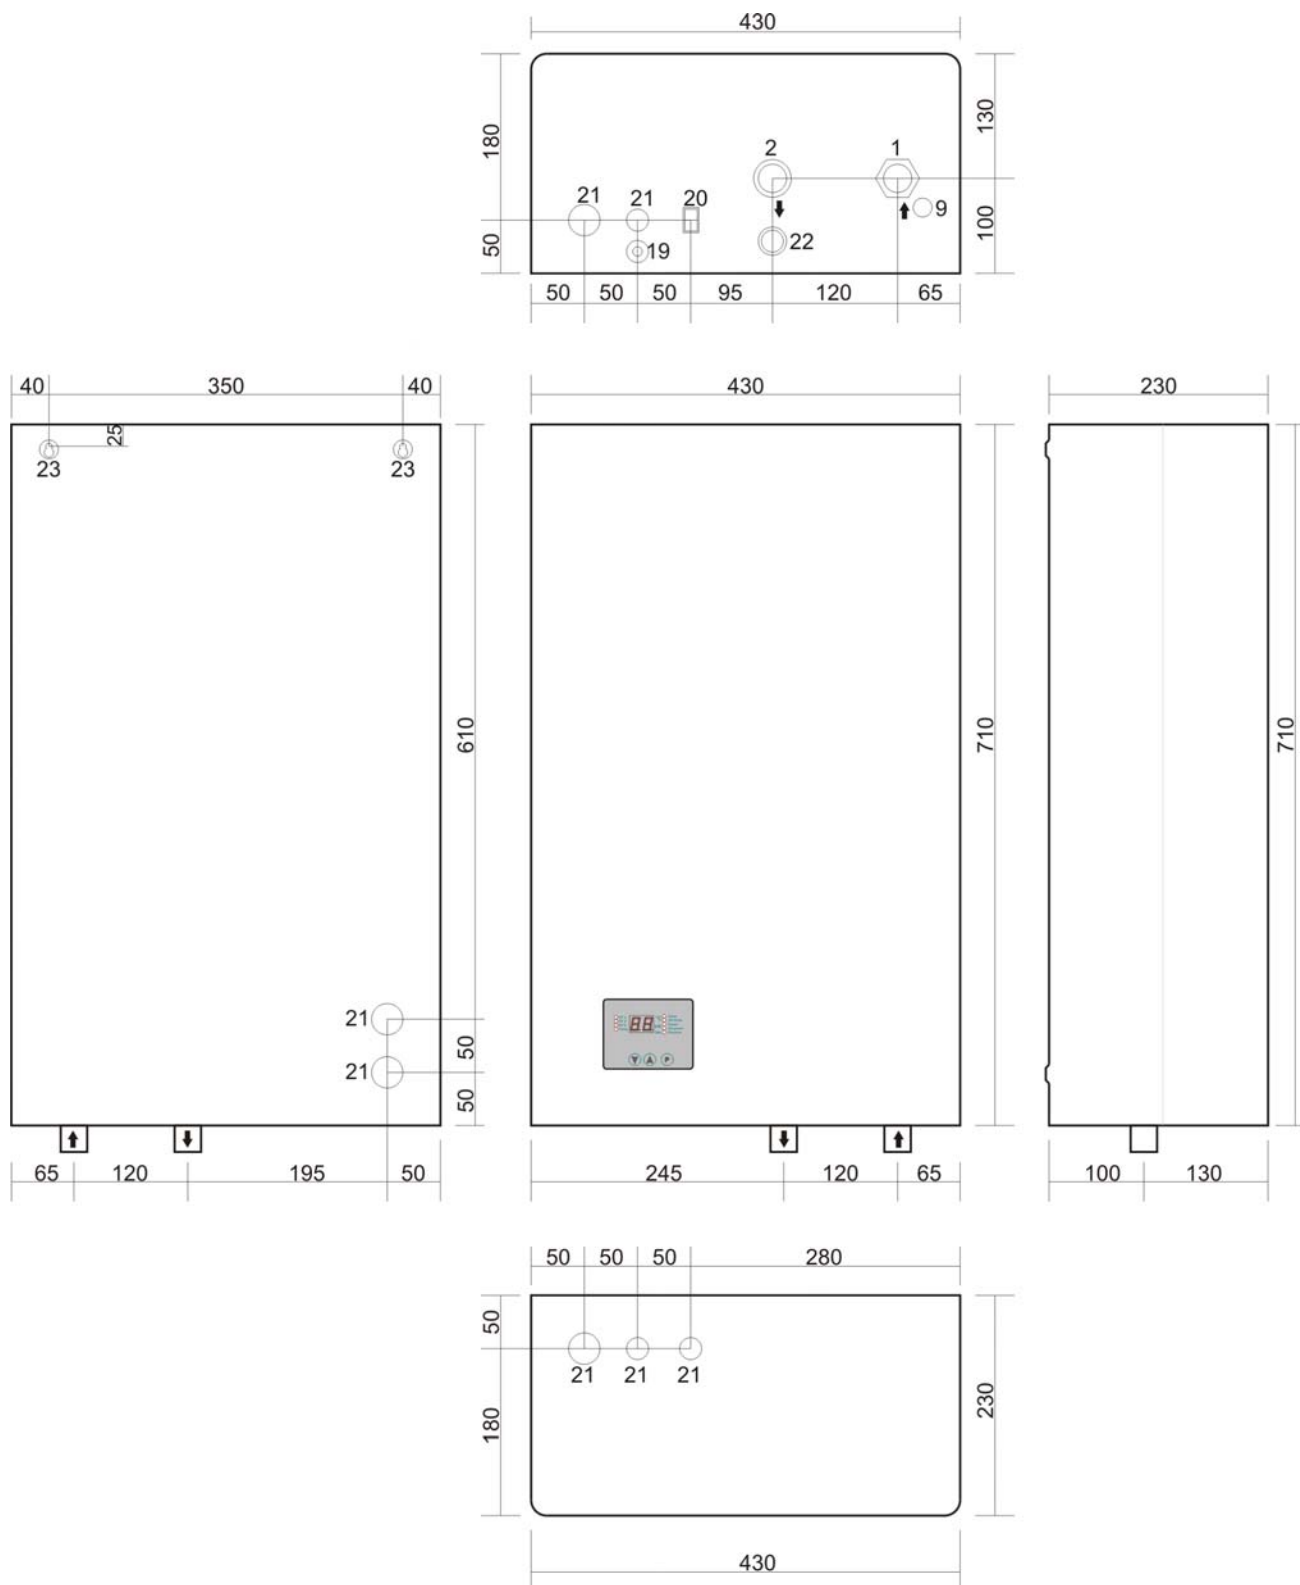

Figure 2: Dimensions and connections
- ④ Drill holes upon dimensions given in Figure 2.
- ④ Put into drilled holes plastic dowel enclosed in device packaging (or adequate dowel for unusual kind of wall)
- ④ Then screw bolts into delivered dowels (or other) in such way that are left out from the wall min 5 mm-max 10mm.
- ④ Carefully hang device on the wall
- ④ Make sure that boiler is placed vertically.
- ④ Fixed boiler on the wall by mounting set and screw